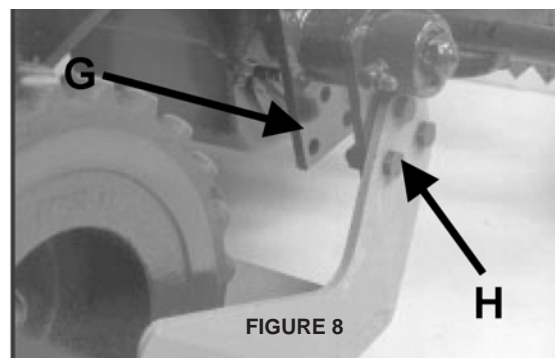

FIGURE 8
11. Attach the cutting blade **H** to the side arms **G**. Secure with six 5/16-24x1" screws, lockwashers and nuts. Torque to 25 ft.-lbs. (34N·m) (Figure 8)